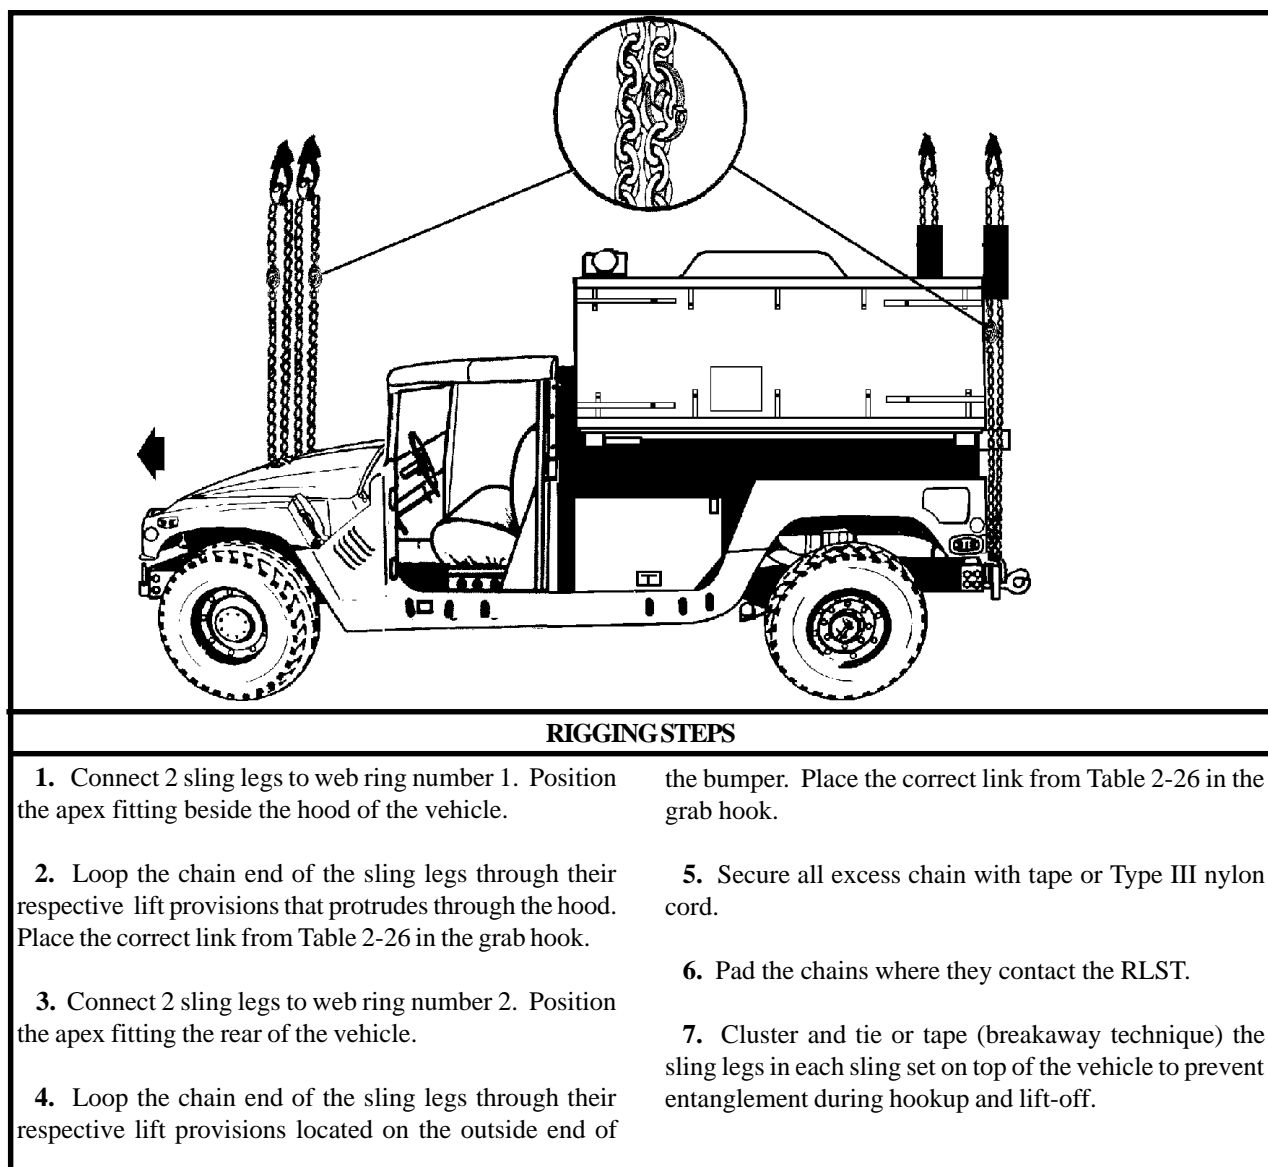

Figure 2-25. M1098 HMMWV with Remote Landing Site Tower (RLST)
(2) **Rigging.** Rig the load according to the steps in Figure 2-25.